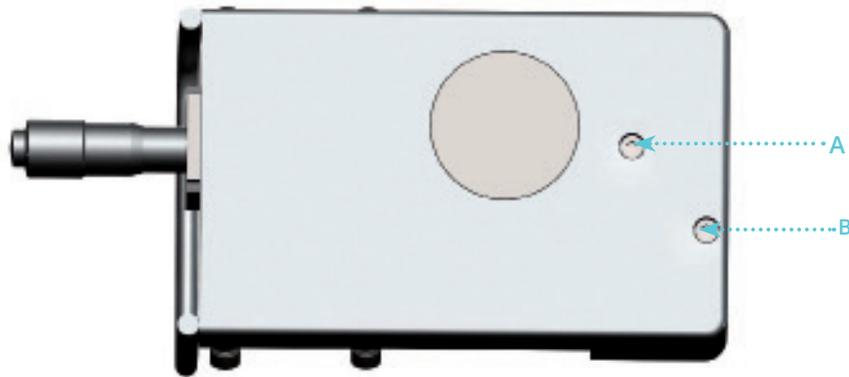

Figure 4.9 - The 2 screws that secure the transducer house to the chamber
3. When the system reaches target temperature, adjust the calibration kit so that the tip of the transducer arm is as close to the wire (if jaws are being used) or pin on the transducer side as possible without touching, as illustrated in Figure 4.9. One way to do this is to use the following technique. Start with the calibration kit in place so that the transducer arm of the bridge with the pans is not touching any part of the jaw or wire (if the jaws are being used) or not touching any part of the pins. Go to the main menu displaying the forces, and zero the channel being calibrated so the force reads zero. Slowly and gently slide the calibration kit forward toward the micrometer so that the transducer arm rests on the wire or pin, creating a force reading on that channel. Carefully slide the calibration kit back toward the transducer slowly until the force reads zero or very close to zero. At this point, as soon as the force reads zero, the transducer arm will be properly placed for weight calibration.
3. Turn the Myograph Chamber upside down and remove the transducer housing by loosening the two screws (A+B) as illustrated in Figure 4.9 below.